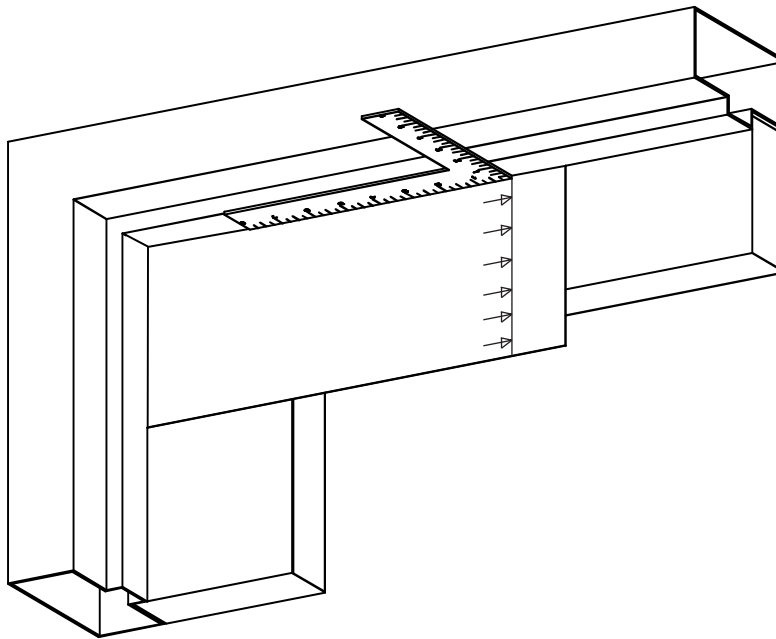

Figure 8
8. Refer to Figure 8, and, using a square, MARK the centerline of the arm pivot onto the underside and face of the frame header and door stop. (This line is shown on the template.)